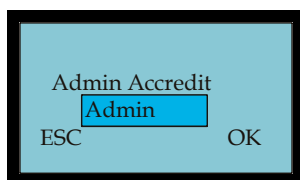

Figure 2-76 Admin Accredit Selection Screen
4. Select Enroll FP, Enroll Pwd, or FP & Pwd using the ▼ button, and press **OK**. The screen to select the privilege level [Admin, Supervisor, or Enroller] will appear (see **Figure 2-76**).